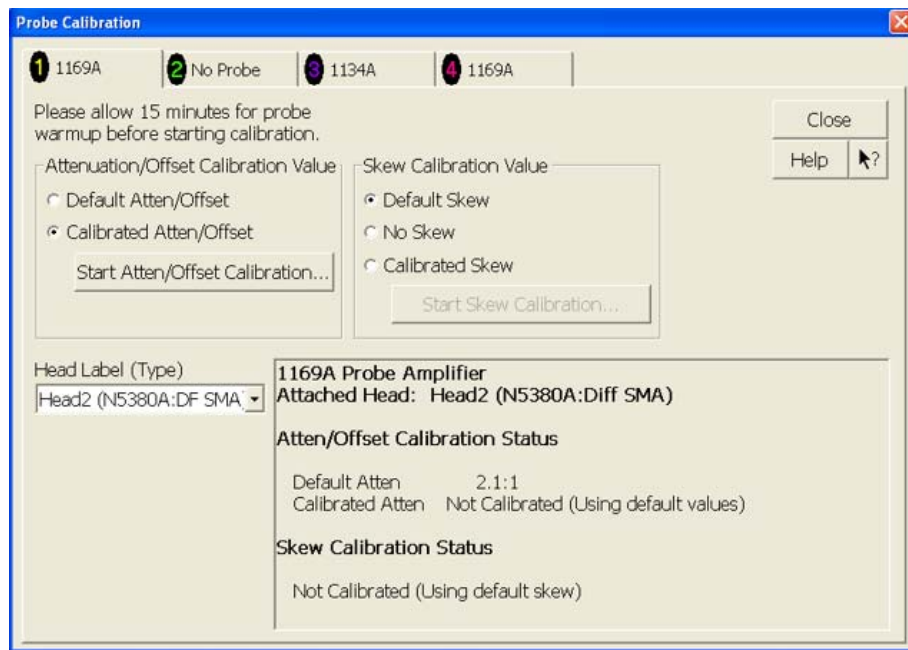

Figure 110 Probe Calibration Window.
- 3 Referring to Figure 110 below, perform the following steps: